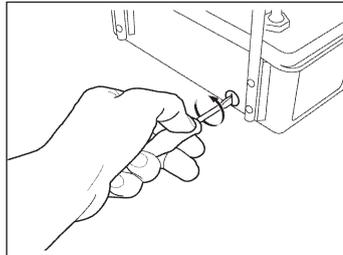

Fig. SE30 Machine controller adjustment wheel
- ➔ Remove the stopper on the remote infrared controller (Fig. SE30).